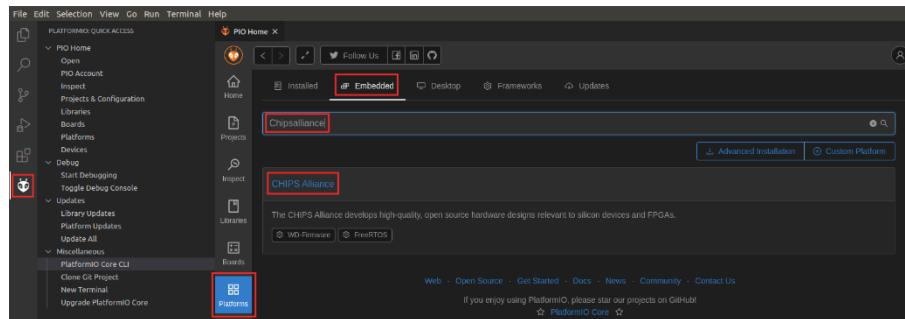

Figure 100. Selecting the CHIPS Alliance Platform
1. View the Quick Access menu by clicking on the  button, located in the left side bar (see Figure 100). Then, in the PIO Home, click on the  button and then on the  tab (Figure 100). Look for **Chipsalliance** (the platform that we use
in RVfpga) and open it by clicking on the **CHIPS Alliance** button (Figure 100).